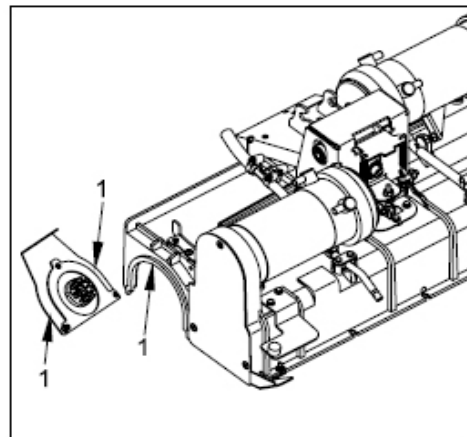

Figure 27 - Cylindrical Scrub Head / Brush Cover Idle Plate
- Clean the bearing surfaces (Figure 27/1) after each brush replacement.